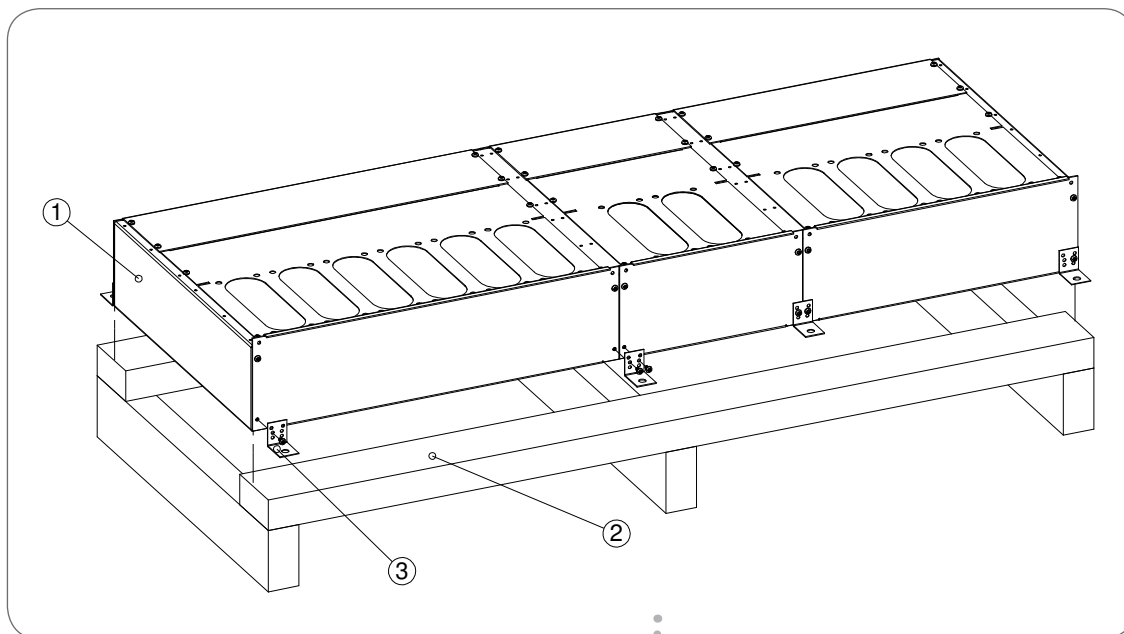

Fig. 2.2 Base and wooden base frame. The base (1) is fastened to the wooden base frame (2) using base fastening brackets (3).
The fully assembled base line (1) should be fastened to a separate wooden base frame (2) made of, for instance, 50*100 mm timber according to Fig. 2.2, and using base fastening brackets (3).